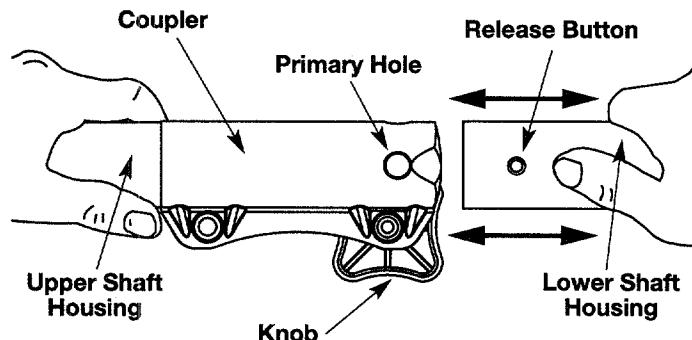

Fig. 2
3. While firmly holding the upper shaft housing, pull the snow thrower attachment out of the coupler (Fig. 2).
2. While firmly holding the add-on, push it straight into the coupler (Fig. 2).
**CAUTION:** Lock the release button in the primary hole (Fig. 2) and securely tighten the knob before operating this unit.